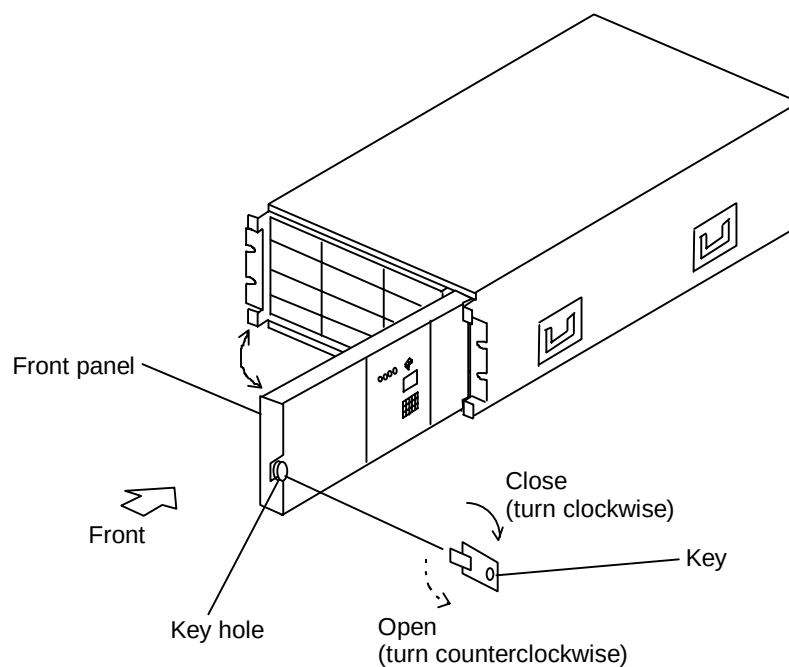

Figure 2.5.2 Opening/Closing the Front Panel
(1) Opening procedure (See Figure 2.5.2.)
- ① Remove the front cover. (See RH-OPTION0120.)
- ② Insert the key, turn it to the arrow direction (· · · ➤) and hold the left of the front panel to open to the right.
(2) Closing procedure (See Figure 2.5.2.)
- ① Close the front panel.
- ② Turn the key to the arrow direction (—→) and secure the front panel.
- ③ Attach the front cover.